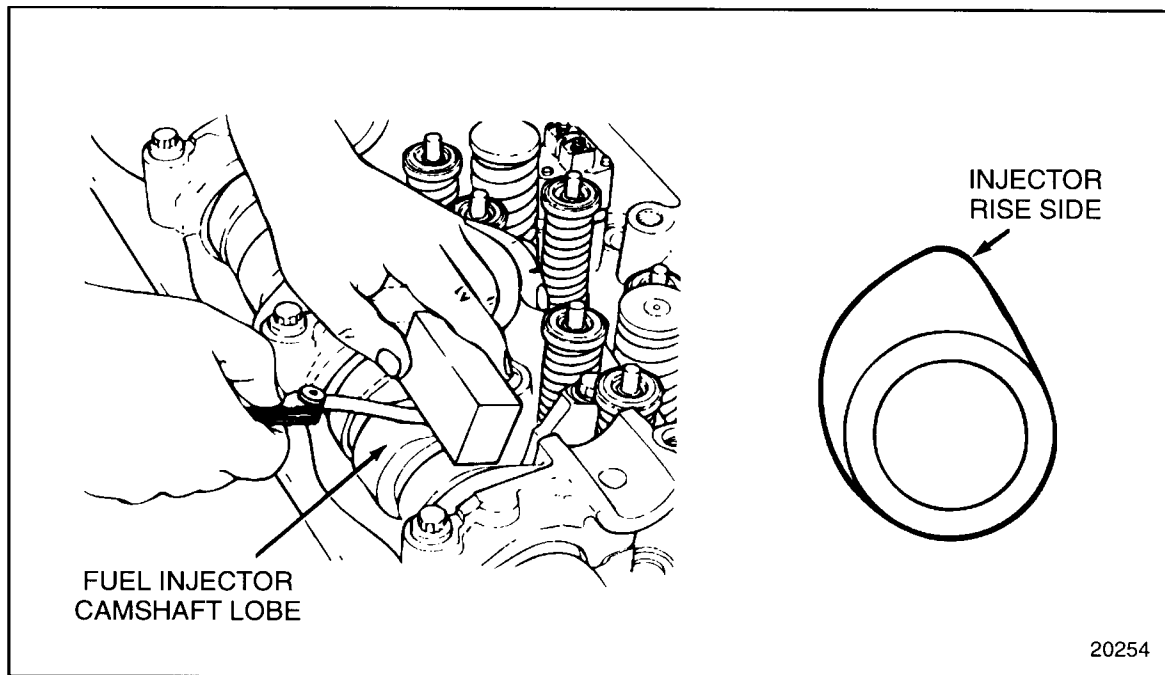

Figure 1-358 **Checking Camshaft Lobe Wear**
- [a] Using a feeler gage, 0.038-0.254 mm (0.0015 -0.010 in.) and a piece of square, hard material 3 x 10 x 25 mm (1/8 in. x 3/8 in. x 1 in.), measure the flat on the injector rise side of the camshaft lobes and nose of valve lobes. See Figure 1-358.